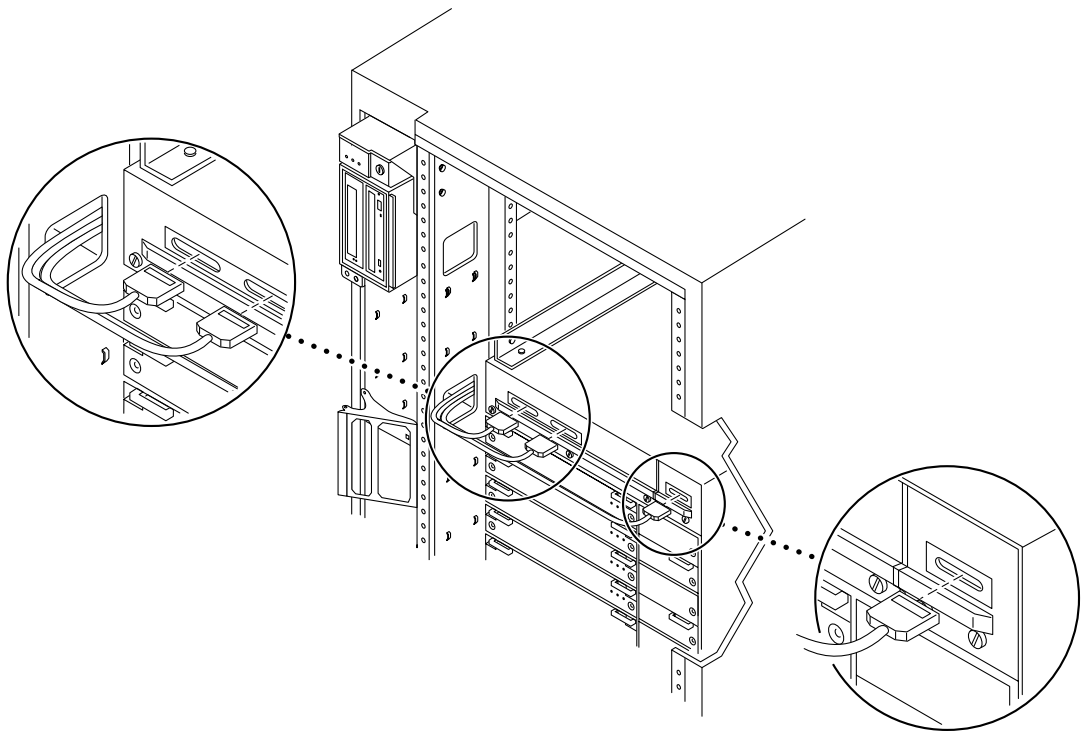

FIGURE E-7 Removing the Cable Assemblies From the Front of the SCSI Adapter Tray
- 9. Disconnect the cable assembly from the front of the SCSI adapter assembly and remove the cable assembly (FIGURE E-7).**
- 3. Connect the cable assembly into the front of the SCSI adapter assembly (FIGURE E-7).**
- 2. Disconnect the two cable assemblies from the front of the SCSI adapter assembly (FIGURE E-7).**
- 3. Connect the two cable assemblies to the front of the SCSI adapter assembly (FIGURE E-7).**